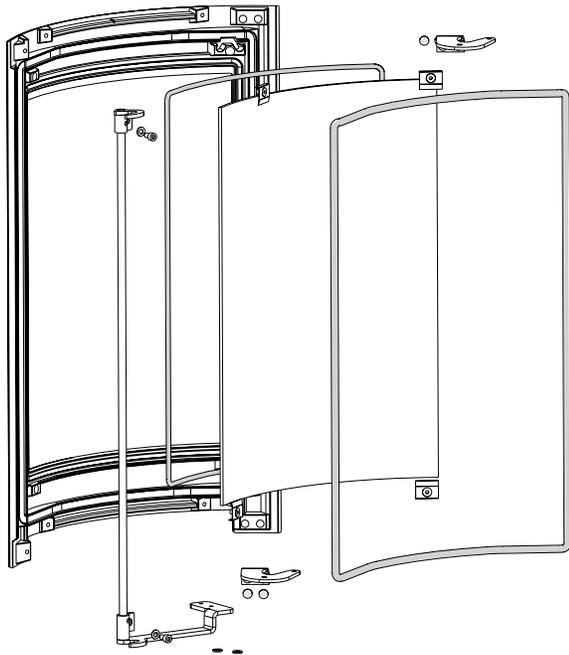

Figure 20. Glass and gasket replacement.
1. First loosen and then carefully remove the four glass clips from the inside of the door. See fig. 20.
- The procedure is the same for the side glass panels. Consult fig. 20 for glass clip and gasketing orientation.